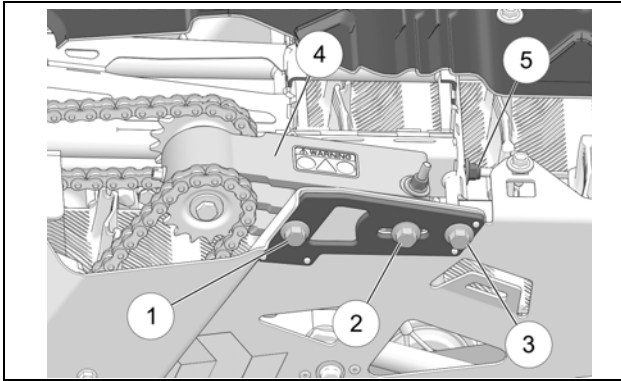

Figure 25
- On the System's frame, loosen bolts (1, 2, 3) a little to allow movement of the Chain Tensioner (4). Move Chain Tensioner, using the adjustment bolt (5), to the lowest tension position. See Figure 25.